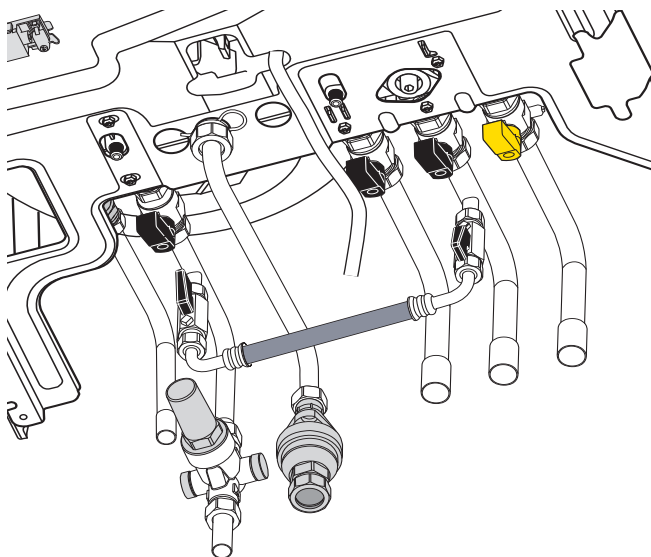

Fig. 15.1
- undo the 4 case retaining screws (Fig. 15.1)